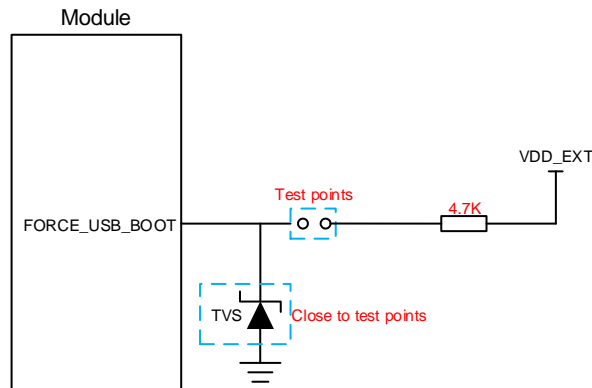

Figure 27: Reference Circuit of FORCE_USB_BOOT Interface
2. When using MCU to control module to enter the emergency download mode, please follow the above timing sequence. It is not recommended to pull up FORCE_USB_BOOT to 1.8V before powering up VBAT. Directly connect the test points as shown in **Figure 27** can manually force the module to enter download mode.